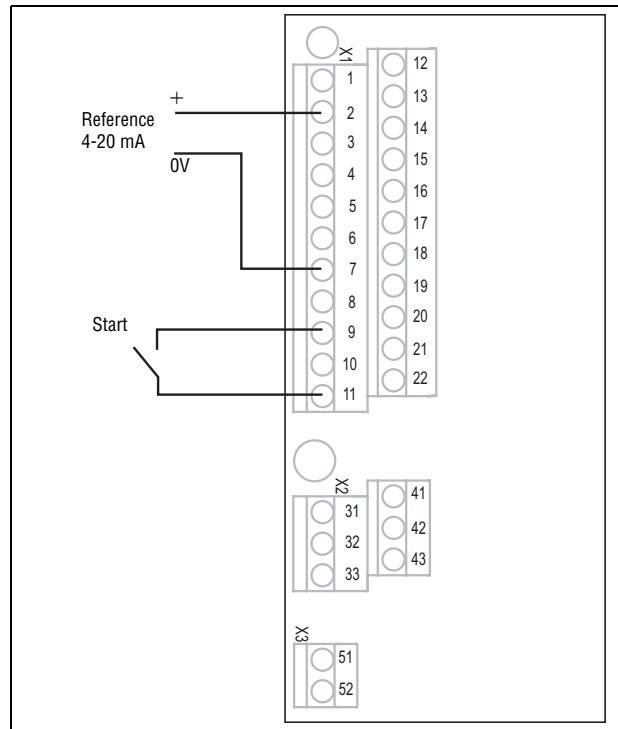

Fig. 22 Wiring
- Connect a reference value between terminals 7 (Common) and 2 (AnIn 1) as in Fig. 22.
10. Connect an external start button between terminal 11 (+24 VDC) and 9 (DigIn2, RUNR) as in Fig. 22.
14. Connect digital and analogue inputs/outputs as in Fig. 22.